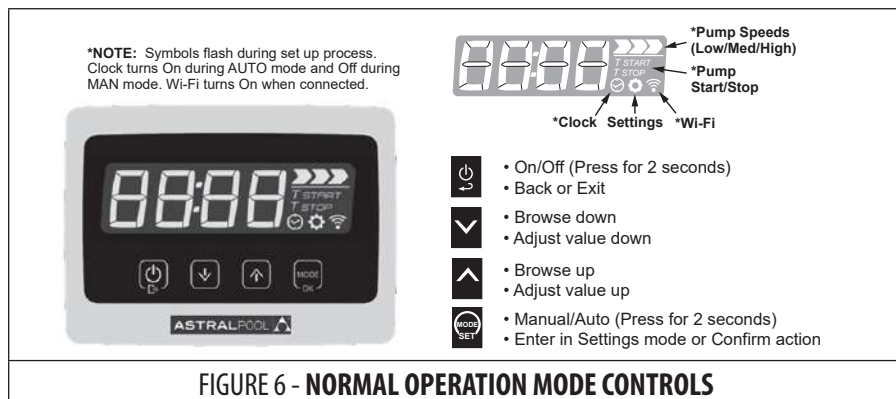

FIGURE 6 - NORMAL OPERATION MODE CONTROLS
NOTE When power alone is supplied to this pump, it will not operate. It requires a digital command sent to it by either a variable speed controller, an automation system, or use of the dry contacts (See Figure 6).
- By connecting one of the inputs to common via an external, non-electrified relay, it will turn on the pump, prime at 100% for 3 minutes, and then go to a pre-determined speed indefinitely until the circuit is broken (See Figure 6). If no inputs are jumped to common, the speed is zero.